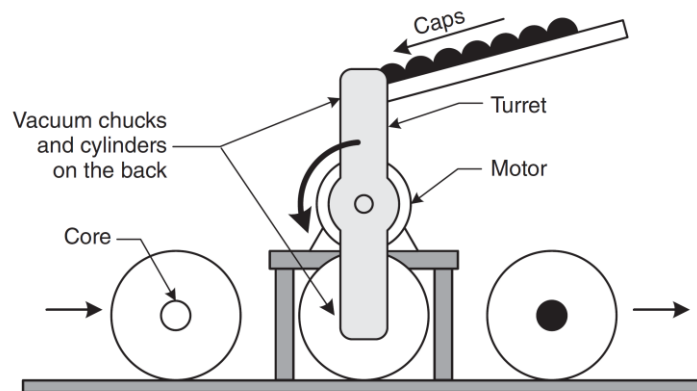

Figure 6: Core capping machine
- 8) The machine shown in Figure 6 retrieves a plastic cap from a magazine and inserts it into the end of the core of a roll. The turret has vacuum chucks and pneumatic pistons at both ends to hold and insert the caps. First, the turret retrieves a cap from the magazine. Then, it rotates 180° and stops to position the cap in front of the core. Next, the piston inserts the cap into the core and the vacuum chuck releases the cap. Finally, the turret makes another 180° rotation back to the magazine. The turret inertia is 40 lb-ft2. It follows a triangular velocity profile to make each 180° move in 0.8 s. The friction torque is 0.23 lb-ft. Select a vector-duty AC induction motor and gearbox for the turret axis assuming no limitations imposed by the drive current capacity.